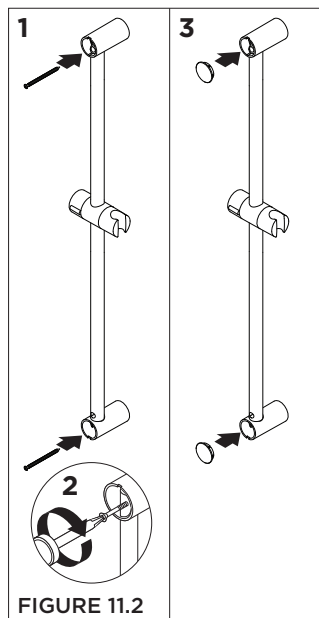

FIGURE 11.2
2) With slide bar in position, secure to wall using screws. Replace upper and lower caps onto slide bar brackets (FIGURE 11.2).